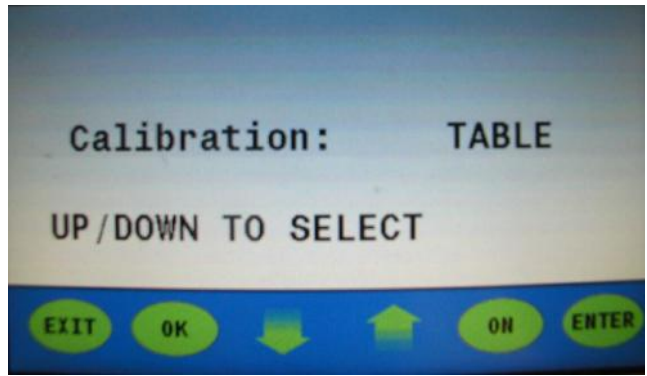

Figure 7
20. Press up or down arrow to select TABLE. **(Figure 7)**